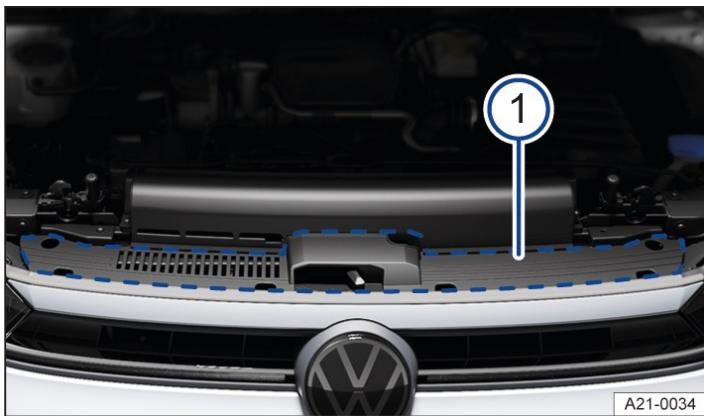

Fig. 1 In the engine compartment: sticker next to the bonnet release (illustration).
The sticker showing the prescribed standard is located in the engine compartment → *Fig. 1* ①.